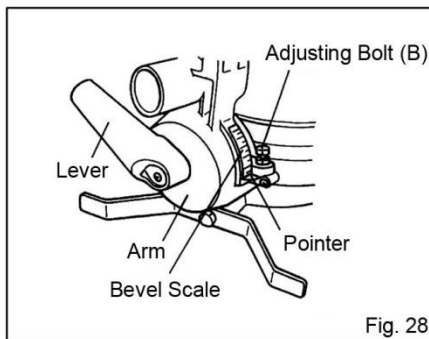

Fig. 28
To adjust left 45° bevel angle, loosen the lever and tilt the blade to the left fully. Make sure that the pointer on the arm points to 45° on the bevel scale on the arm. If the pointer does not point to 45° turn the adjusting bolt (B) on the left side of the arm until the pointer points to 45°. **(Fig. 28)**